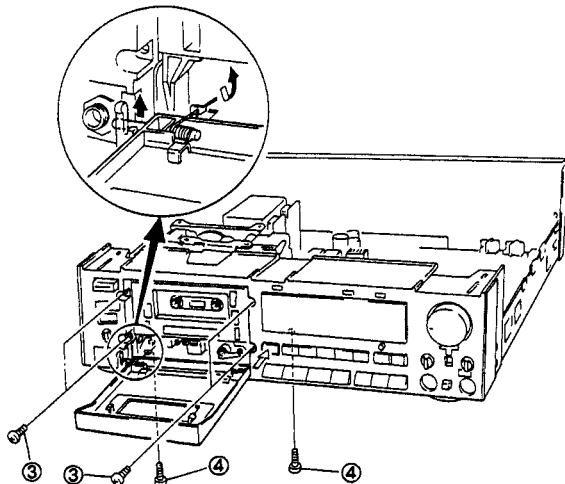

Fig. 2-2
9. Remove the hook of the panel stay and take out the cassette door. (Fig. 2-2)
10. Remove the four screws ③ of the panel stay and two screws ④ on the chassis side, then take out the cassette mechanism unit. (Fig. 2-2)